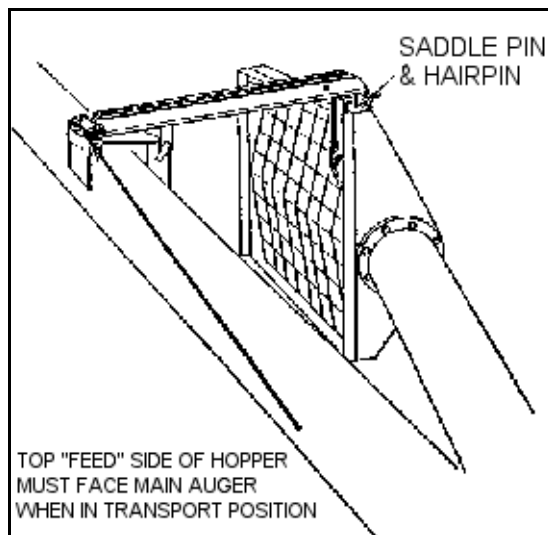

Figure 4.2
**Important:** *Intake feed side of hopper must face main auger when in transport (Figure 4.2)*